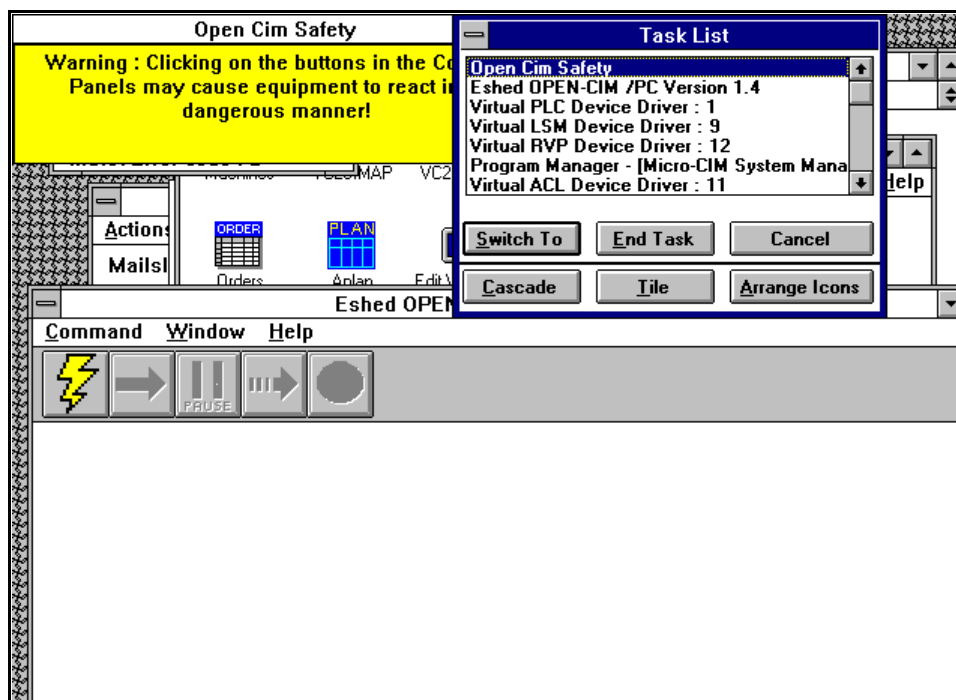

Figure 14: Open-CIM Manager
- Click on **Start CIM (simulation)**. Device drivers will be loaded and the **OpenCIM System Manager** screen is displayed. See Figures 14 and 15.